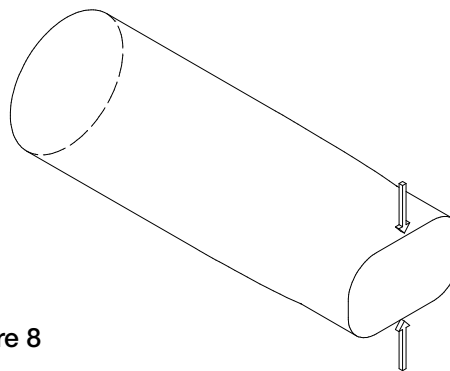

Figure 8
- Connect ductwork by squeezing ductwork and sliding over the fans discharge, see Figure 8. Attach the ductwork to the discharge by using a clamp and seal with approved tape.